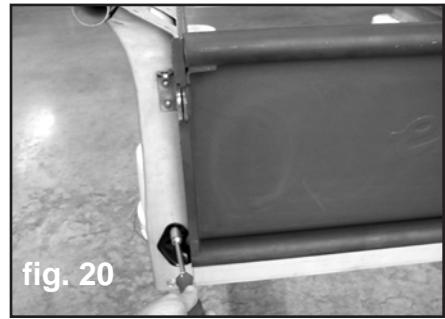

fig. 20
32. Install one hinge onto passenger side rear stake pocket with (2) 5/16"-18 x 3/4" indented hex bolts. Install the tailgate onto this hinge. Install the second hinge into the other end of the tailgate. Bolt the second hinge to the driver side stake pocket. See figure 20.